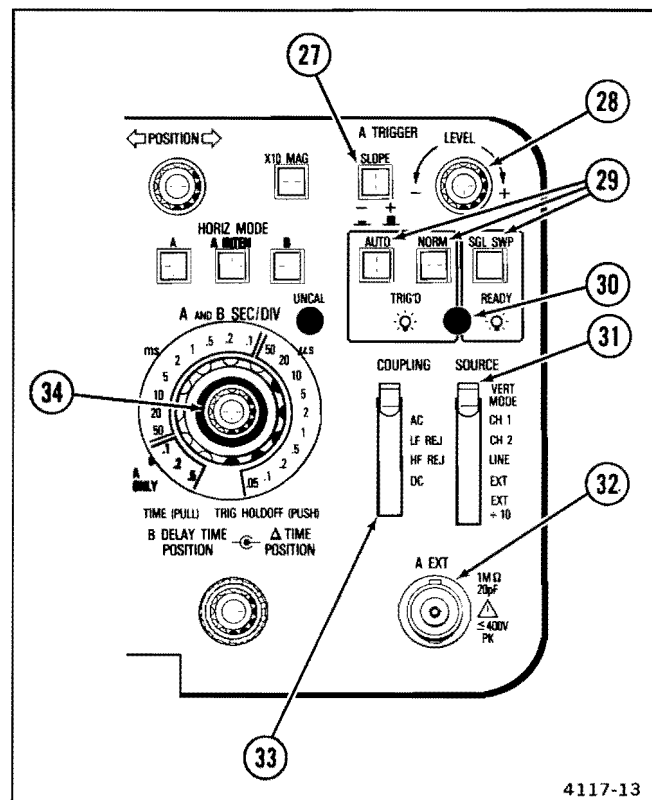

Figure 2-6. A TRIGGER controls, connector, and indicator.
Refer to Figure 2-6 for location of items 27 through 34.